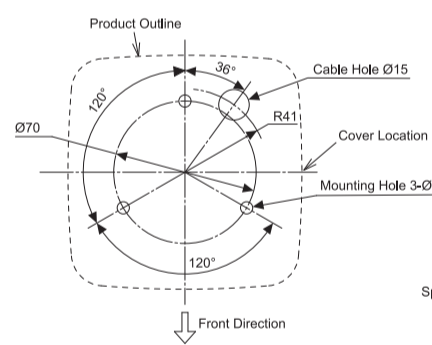

Figure 2: Installation Dimensional Drawing (Illustration depicts front direction)
- 2 Refer to Figure 2 below for the mounting dimensions and drill mounting holes on a mounting surface.